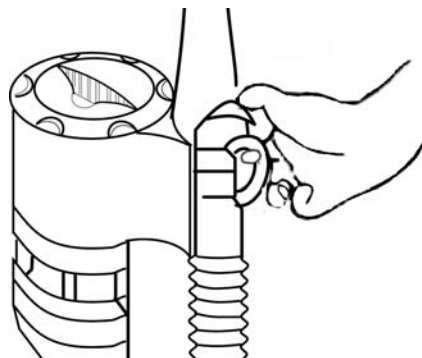

Figure 10a
2. Grab the Hose Handle and press down firmly on the colored Wand Release Button. (See Figure 10a.)